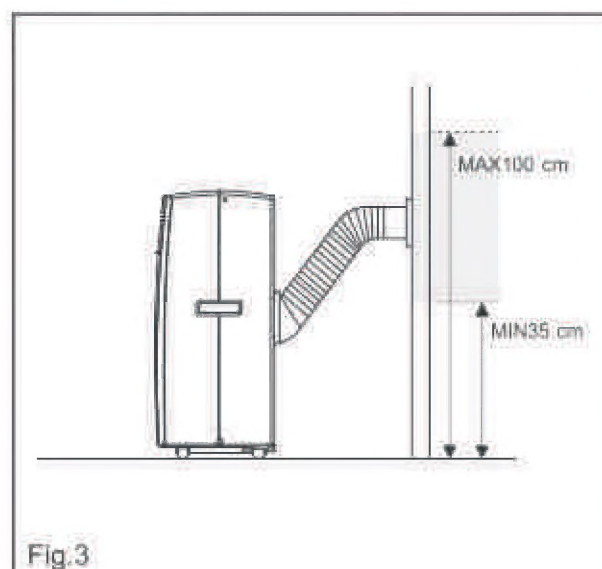

Fig.3
- Insert the other end of the exhaust hose to the flange previously fit on the wall as shown in Fig.3.